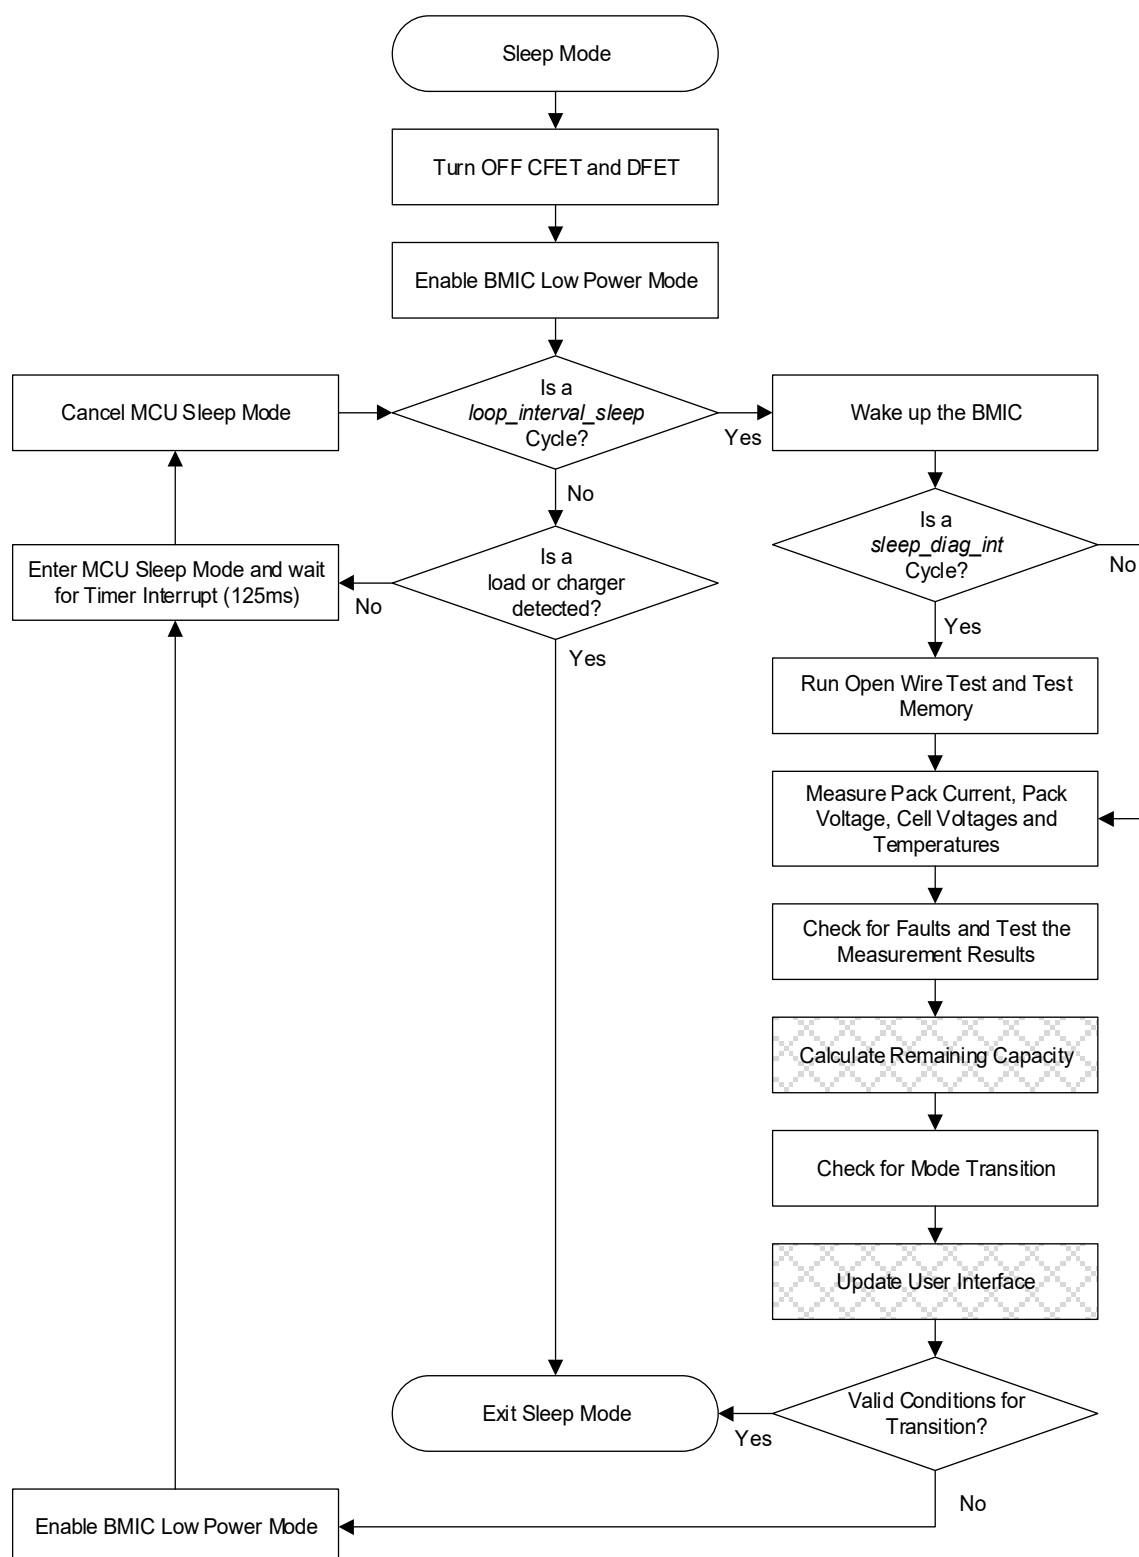

Figure 8. Sleep Mode Flowchart
- Figure 8 shows the flowchart depicting the main loop in Sleep mode.